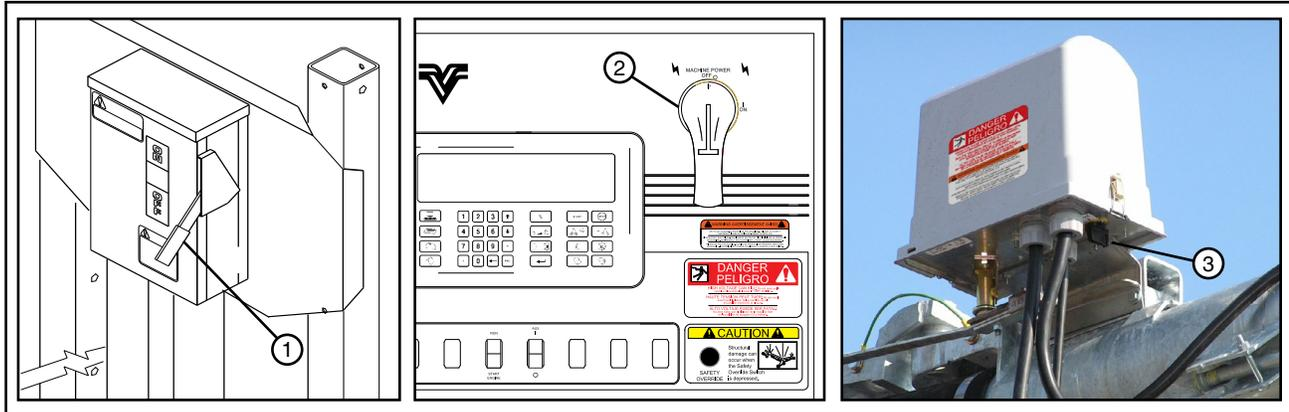

Figure 34-1 1. Main Service Disconnect Switch
- Main Service Disconnect Switch from public power to the control panel. See Figure 34-1.
- Control Panel Main Disconnect Switch. See Figure 34-1.
- Any Tower Box Disconnect Switch. See Figure 34-1.